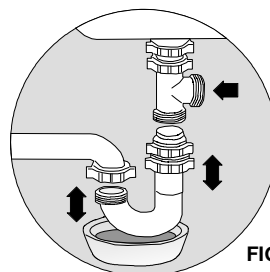

FIG. 5
6. Insert 1/4" drain tube into push-in connector to complete the installation. (See Fig. 5)